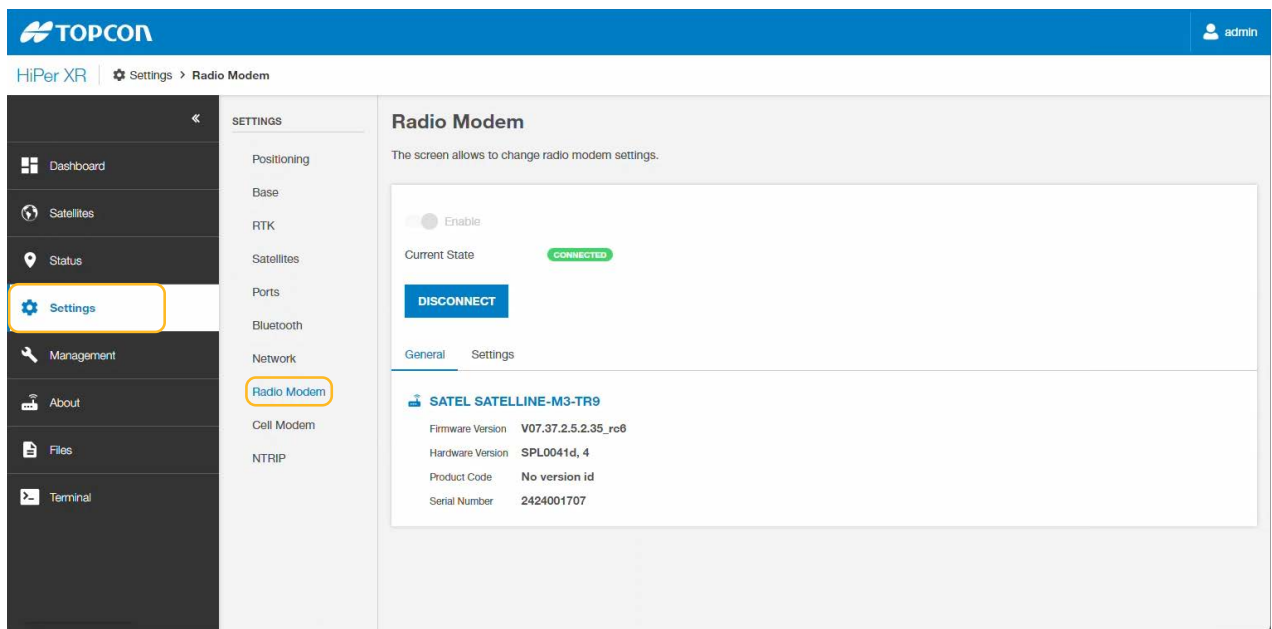

Figure 2-19: Radio Modem Settings
2. Open the **Settings** menu, then select **Radio Modem** (Figure 2-19).